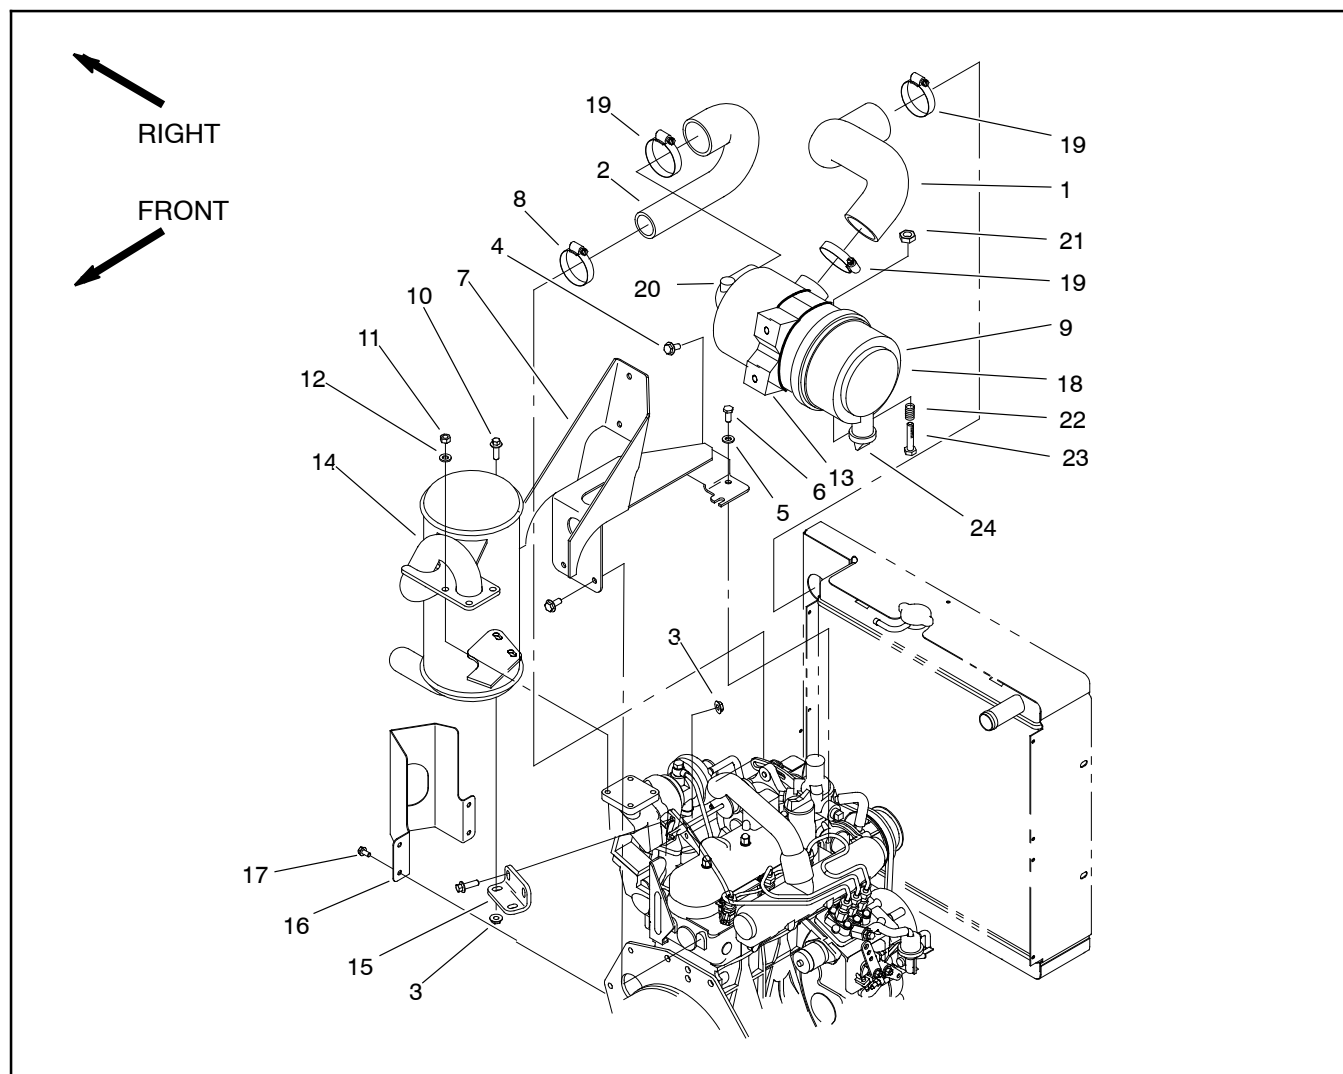

Figure 11
## Muffler Removal (Fig. 11)
## Muffler Installation (Fig. 11)
## Air Cleaner Removal (Fig. 11)
2. Remove air cleaner components as needed using Figure 11 as a guide.
## Air Cleaner Installation (Fig. 11)
1. Assemble air cleaner system using Figure 11 as a guide.